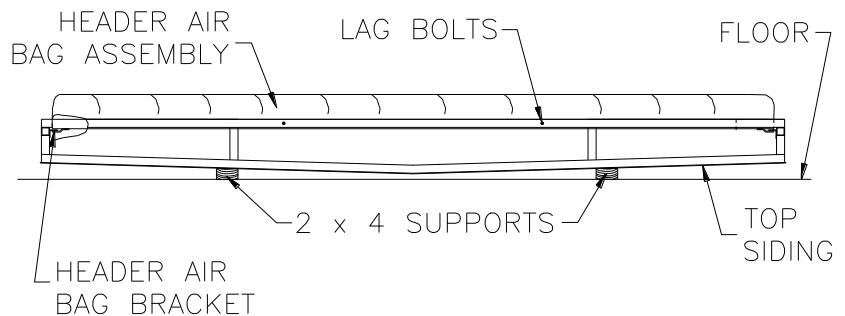

FIG. 6
- a. **Place Head Frame upside down** on clean, flat 2 x 4 supports (Figure 6).